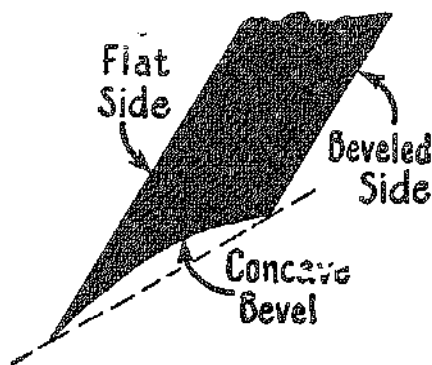

Figure 5.
The wood chisel may be sharpened either by grinding and whetting or by whetting, depending upon its condition. The cutting end of a wood chisel has one flat side and one beveled side (Fig. 5). The beveled side is concave and is put on the chisel during the grinding operation.
⑧ BEGIN REMOVAL OF WIRE EDGE WITH UNBEVELED SIDE FLAT ON STONE.
⑨ REPEAT OPERATIONS SHOWN IN FIGURES 5 AND 8.
⑩ UNTIL EDGE DOES NOT REFLECT LIGHT—
⑪ OR UNTIL EDGE FEELS SMOOTH AND KEEN UNDER THUMB TEST.